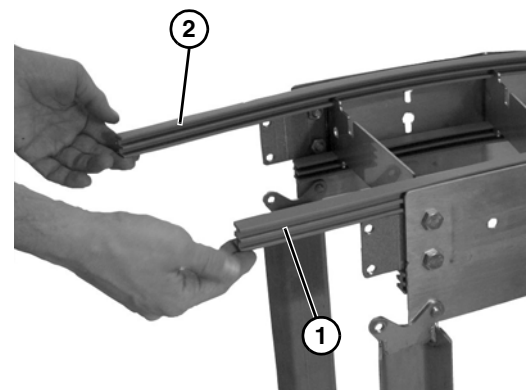

Figure 53
5. Slide off inner (**Figure 53, item 1**) and outer (**Figure 53, item 2**) belt guides.